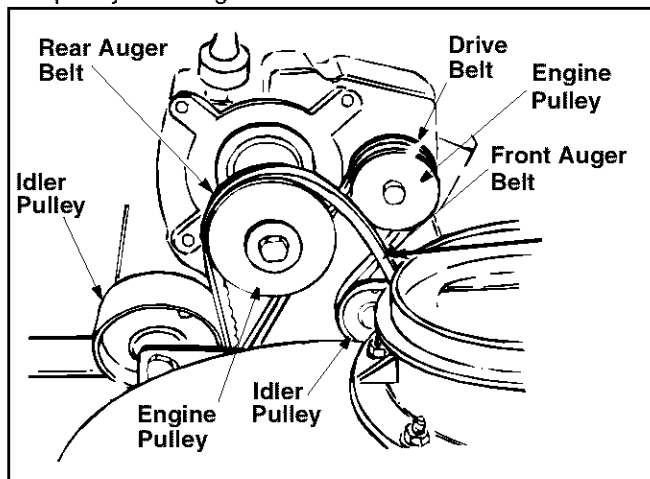

Figure 22
- Roll the front and rear auger belts off the engine pulley. See Figure 22.
- Pull idler pulley up, and lift belt off engine pulley and friction wheel disc. See Figure 22.